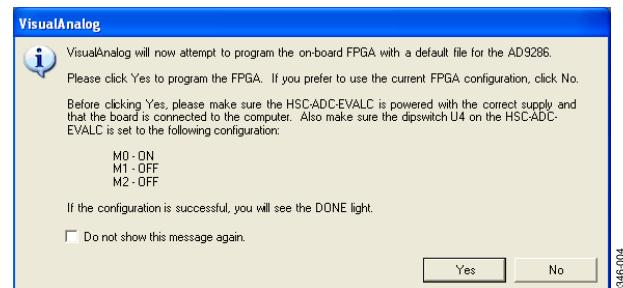

Figure 4. VisualAnalog Default Configuration Message
2. After the template is selected, a message appears asking if the default configuration can be used to program the FPGA (see Figure 4). Click Yes to close the window.